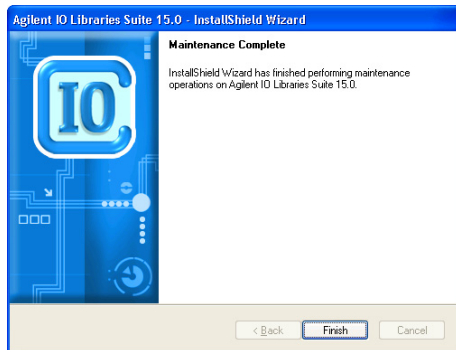

Figure 54 Agilent IO Libraries Suite Maintenance complete.
- 4 Press **Finish** to complete the repair (see Figure 54).